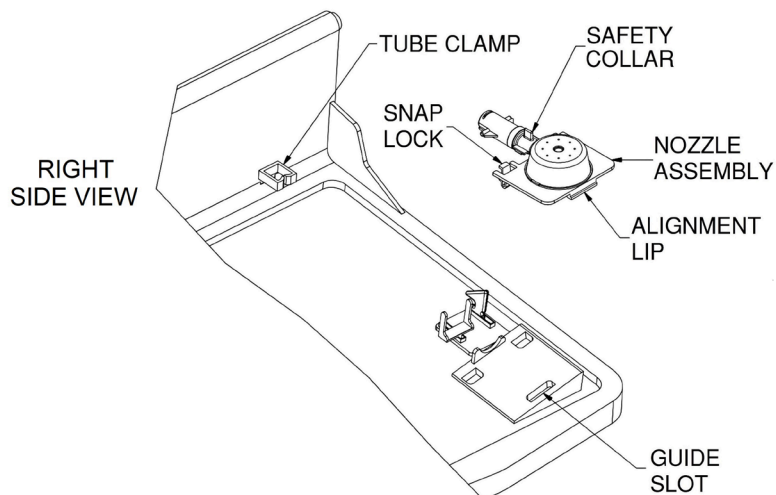

FIGURE 10
- D. Tilt Nozzle Assembly to insert alignment lip into guide slot on Tray Assembly (**Ref Figure 10**)